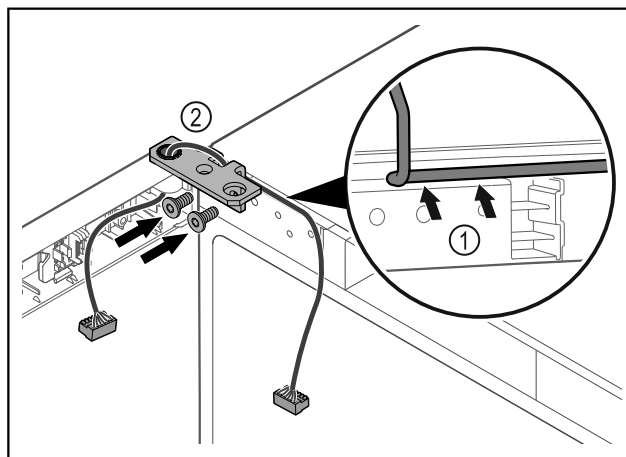

Fig. 62
- ▶ Feed the cable through the recess in the hinge and lay it carefully Fig. 62 (1).
- ▶ Screw on the hinge Fig. 62 (2).